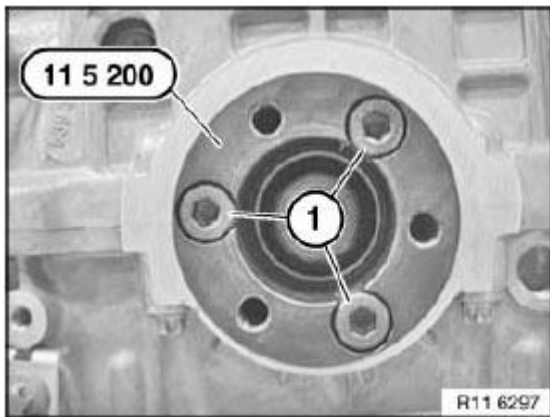

Fig. 204: Identifying Special Tool (11 5 200)
Tighten down special tool 11 5 200 with screws (1). See **Fig. 204**.